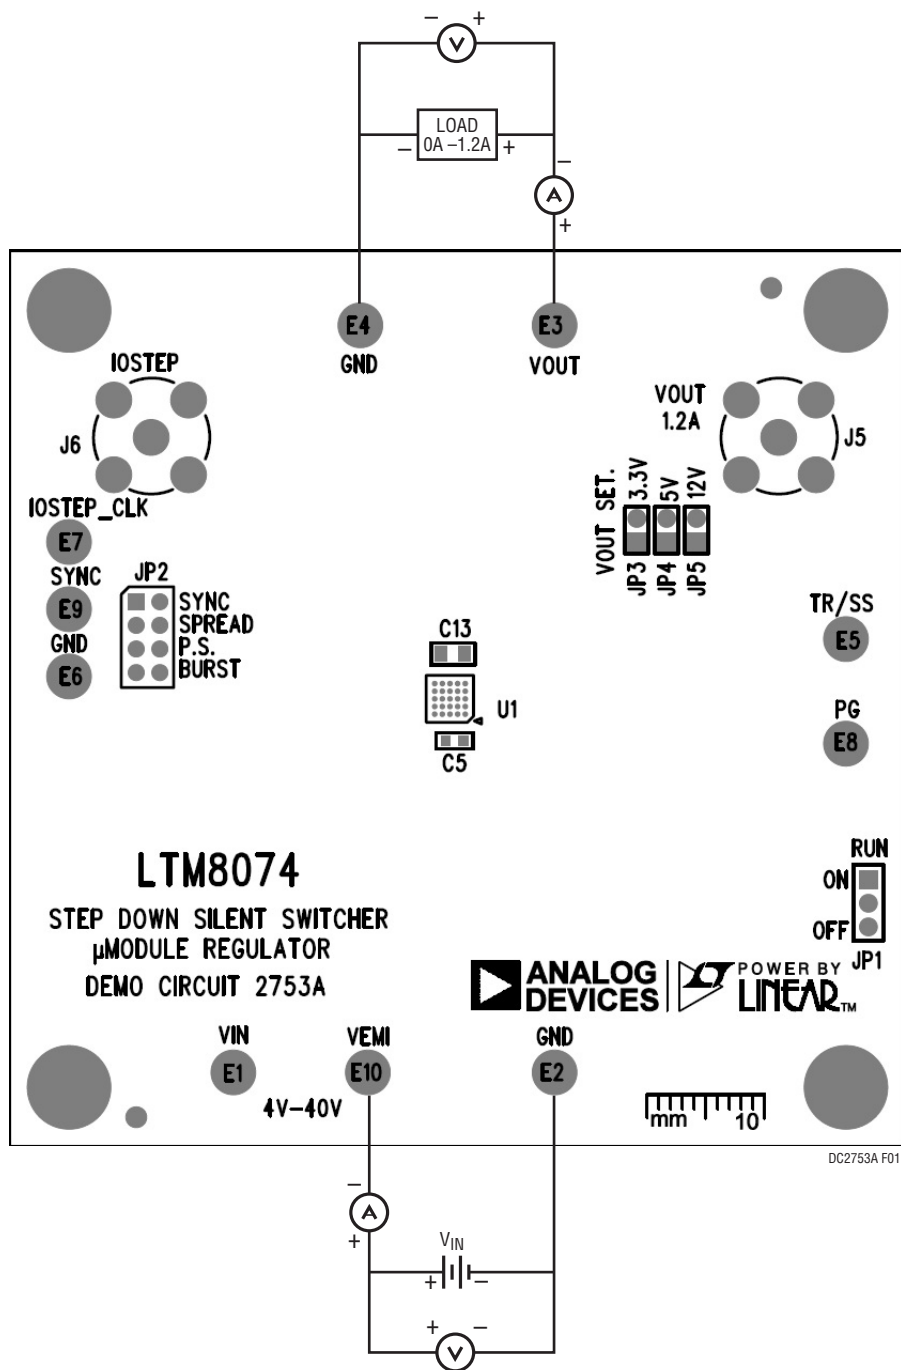

Figure 1. Test Setup
Demonstration circuit 2753A is an easy way to evaluate the performance of the LTM8074EY. Please refer to Figure 1 for test setup connections and follow the procedure below.
3. With power off, connect the load, input voltage supply and meters as shown in Figure 1.